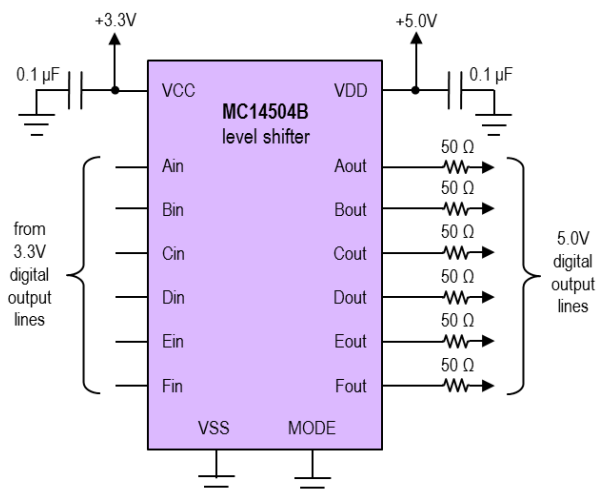

Figure 1. Digital level shifter circuit to convert 3.3V logic signals to 5.0V logic signals.
A circuit for scaling these 3.3V signals to 5.0V signals is shown in Figure 1 on the following page. The circuit uses an MC14504B level shifter integrated circuit (IC) that contains six digital voltage translator circuits. The input pins (**Ain – Fin**) receive digital signals operating on a voltage scale defined by the **VCC** power pin. These signals are shifted to the voltage scale defined by the **VDD** power pin and appear on the output pins (**Aout – Fout**). It is recommended that 0.1 μF capacitors to ground be placed close to the power pins to supply rapid currents when switching occurs.